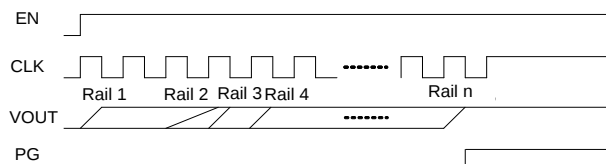
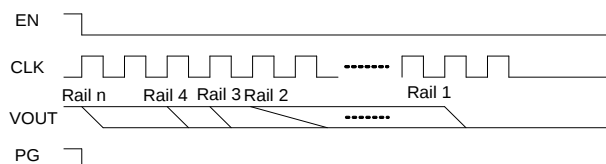

Figure 6: Soft Start when CLK Does Not Pull Down (Not Pausing)
Figure 7 Soft Shutdown when CLK Does Not Pull Down (Not Pausing)
- If **CLK_PAUSE_EN = 0**, the initiator/target PMIC does not pull the CLK pin down during the soft start/shutdown of any power rails. Figure 6 shows soft start when CLK does not pull down. Figure 7 shows soft shutdown when CLK does not pull down.